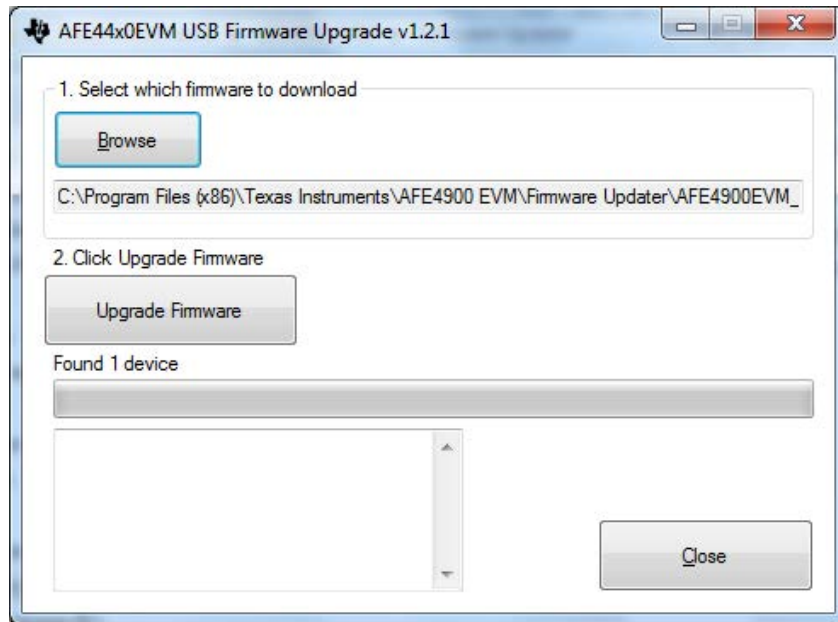

Figure 50. PC Application Firmware Upgrade – 3
- Browse and select the appropriate firmware binary file (example: AFE4900EVM_FW_V1.0_SPI_LDO_EN.txt file) and click *Upgrade Firmware* as shown in Figure 50. The default firmware is available from: